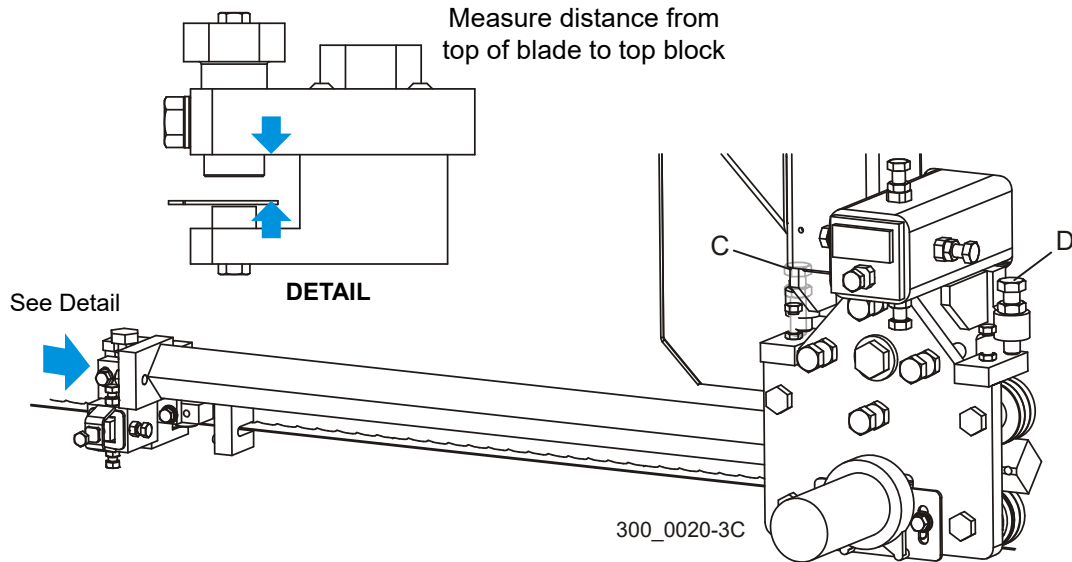

FIG. 7-34
See Figure 7-34. With the blade guide arm adjusted in near the inner blade guide, measure the distance from the top of the blade to the top blade guide block. Adjust the blade guide arm all the way out and measure again. If the two measurements are not equal with $1/32$ ", adjust the vertical tilt of the blade guide arm. To adjust the vertical tilt of the arm, adjust the bolts (C & D) on the blade guide arm mounting plate. Loosen the jam nuts. Adjust bolt (C) up and bolt (D) down to tilt the arm up. Adjust bolt (D) up and bolt (C) in to move the arm toward the blade. Recheck the distance from the blade to the top block at